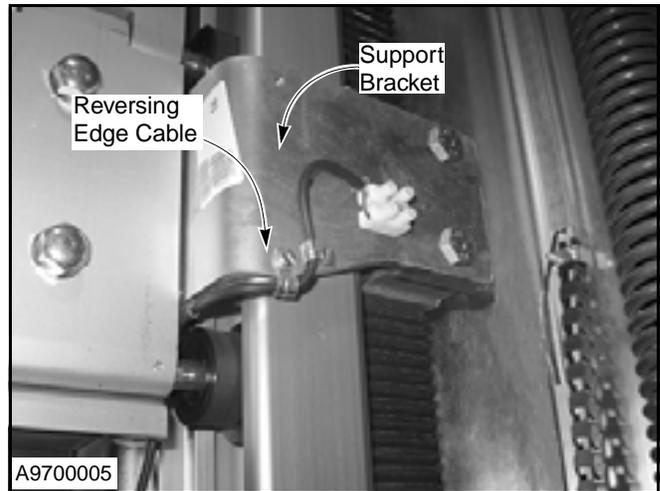

Figure 70
1. Locate the reversing edge cable leading from the bottom, right-hand corner of the door. Install wires into terminal block and tighten screws. (See Figure 70.)